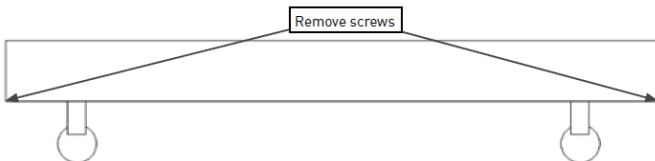

Fig. 1
- Remove the two screws at either end of the suspension housing and remove the baseplate (see Fig. 1)